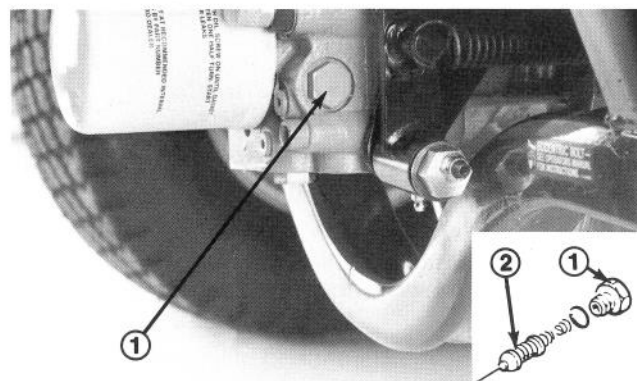

Figure 8
- Locate plug on lower left side of hydrostat. Thoroughly clean area around plug to prevent contamination from entering opening when removing plug (Fig. 8).